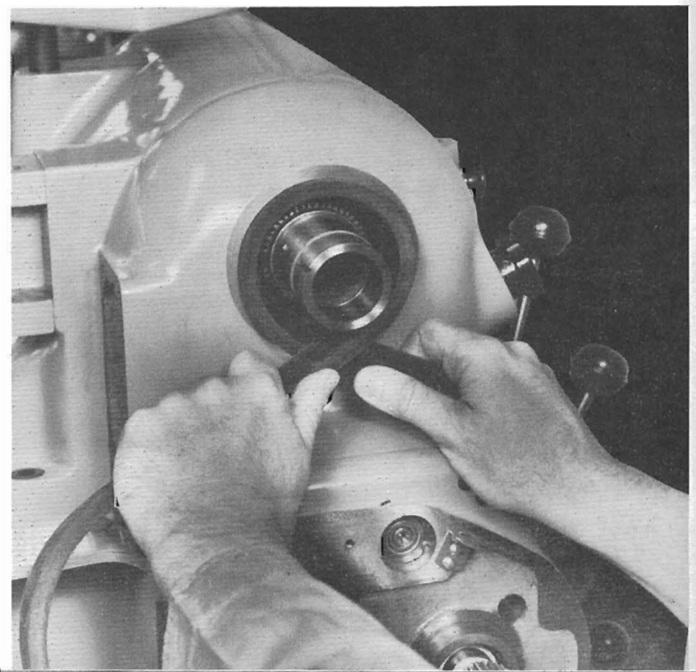

Figure 20 — Spindle Belt Replacement
12. Cross new spindle belt, Figure 20, and feed through gear box, headstock and down into pedestal. Use pull rod to lift belt over spindle pulley.